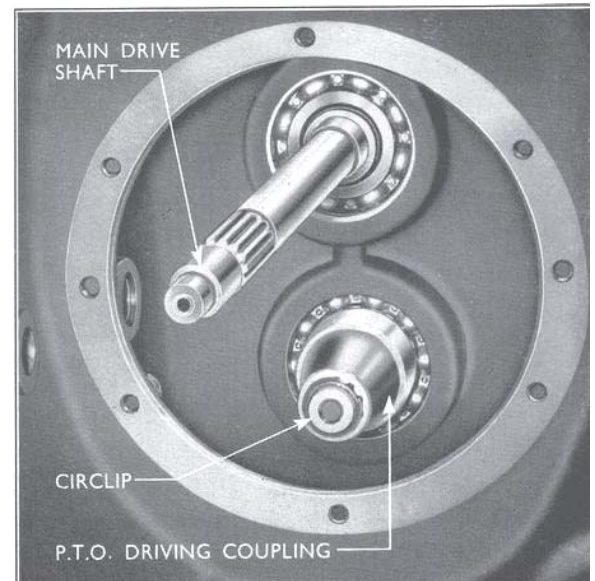

Fig. 15
7. Assemble the P.T.O. countershaft driving coupling to the splines of the P.T.O. and main transmission countershafts and secure with the appropriate circlip (see Fig. 15).